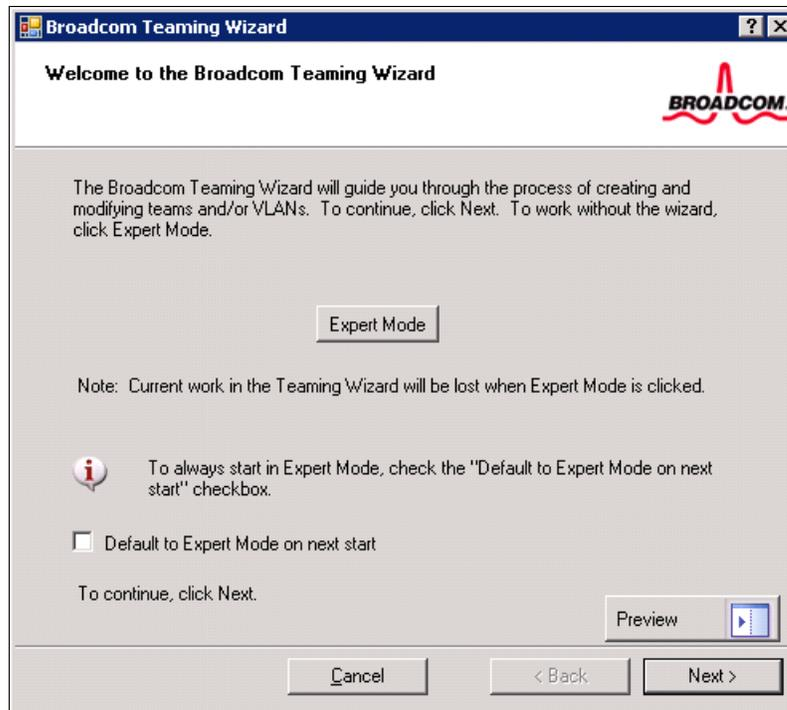

Figure 9-32 Welcome window in the Broadcom Teaming Wizard
3. In the Welcome window (Figure 9-32), click **Next**.